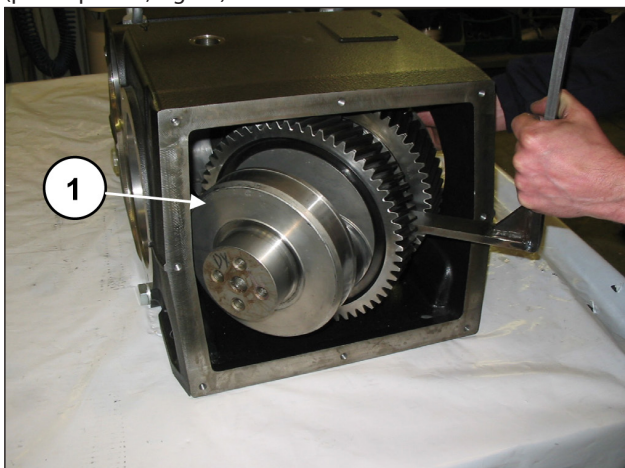

Fig. 39
Remove the bend shaft from the back of the casing (pos. ① pos. ①, Fig. 39).